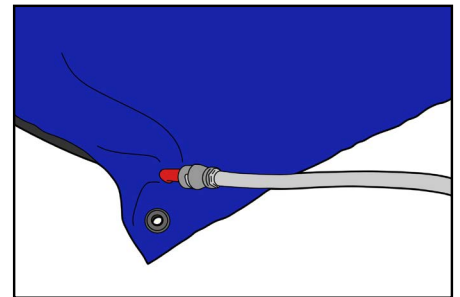

Fig. 8
2. Fill the cushion with enough air so the folds and creases are eliminated. Before the patient is positioned, pre-mold the cushion to ensure that the filling is in the proper place. A stiff but relatively moldable vacuum level is needed to ensure proper patient positioning. You can test the stiffness of the cushion by pressing with 2 fingers (Fig. 8).